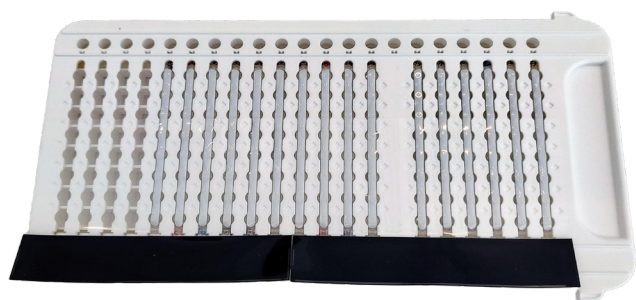

Figure 7. Bottom side of reagent cartridge with common seal attached (black strip).
1. Touch the “Start” button on the home screen (Figure 7).